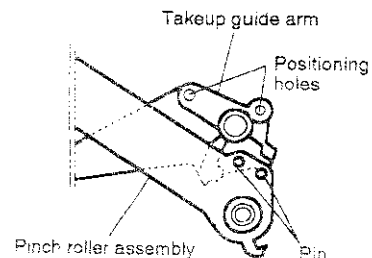

Fig. 3-10-2
- ① Mount the pinch roller assembly on the shaft on the capstan motor stator. Be sure to position the pin at lower part of the pinch roller assembly to the part of the takeup guide arm shown in Fig.3-10-2.
- ② Attach the pinch roller washer to the pinch roller assembly. Secure the pinch roller with the screw ②.